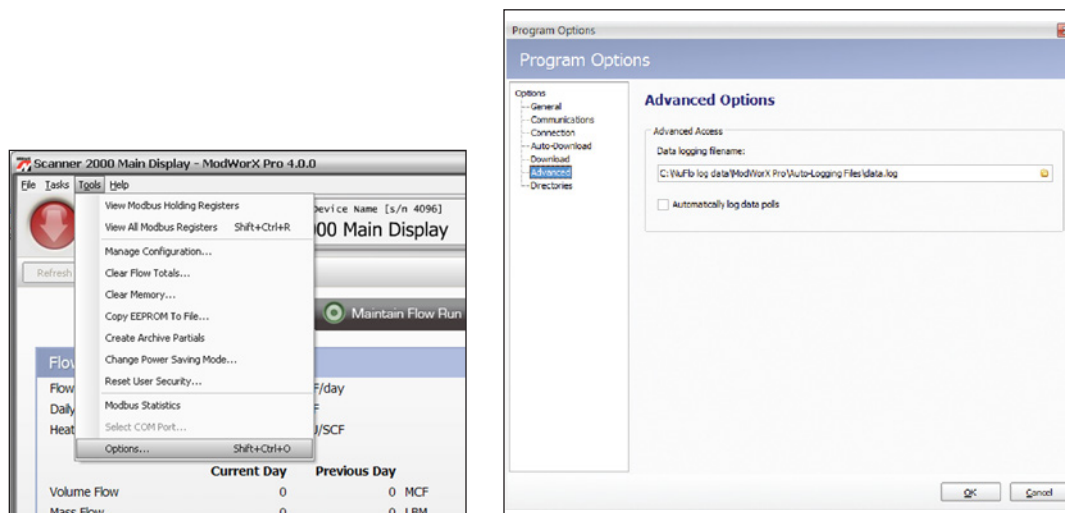

Figure A.24
1. Click **Tools>Options** in the task bar (Figure A.24).